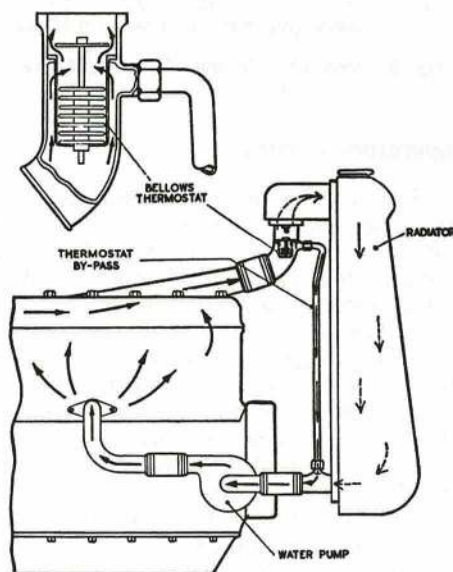

Fig. 5. PUMP COOLING SYSTEM
10. This system (Fig. 5) is also similar to the thermo-syphon system, with additionally a centrifugal impeller type pump fitted between the bottom tank of the radiator